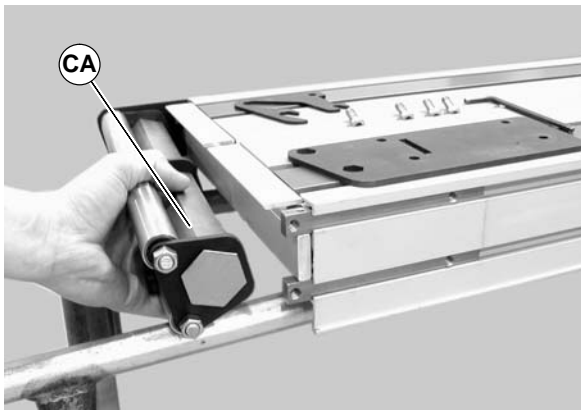

Figure 56
- Slide the transfer tail pulley assembly (CA of Figure 56) out of the headplate on the opposite side.